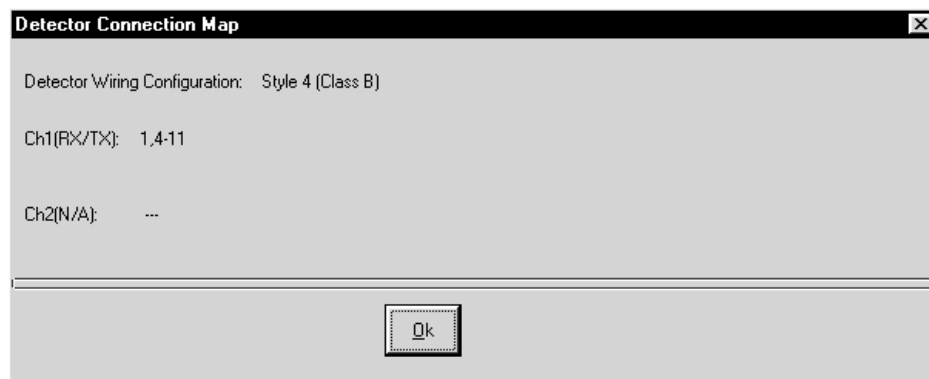

Figure 4-5. Detector Connection Map
2. Select **Setup>Detector Connection Map**. The Detector Connection Map opens as shown in Figure 4-5. It shows the wiring configuration, which Detectors are connected, as well as on which channel the Detectors are connected. Click **<OK>** to return to the main screen.